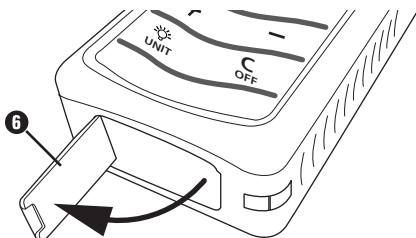

Fig. 2
- ◆ Fold out the angle stop **6** as shown in Figure 2.